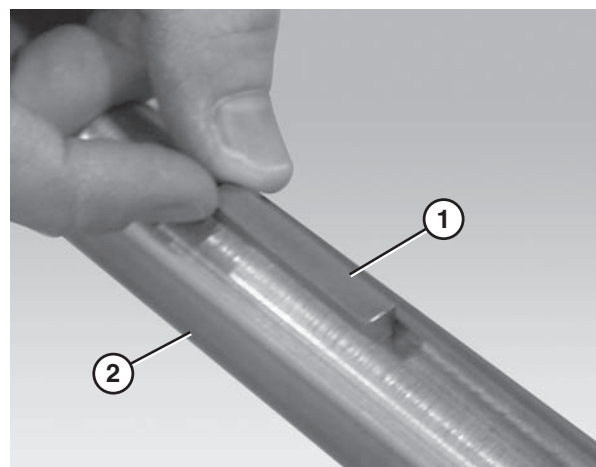

Figure 4
1. Insert the drive spindle key (**Figure 4, item 1**) into the drive spindle keyway (**Figure 4, item 2**).